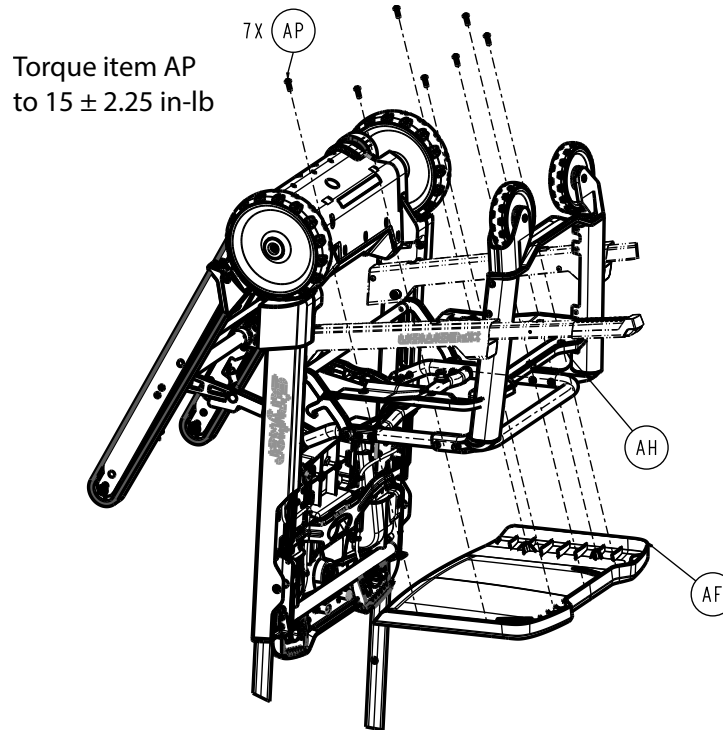

Figure 11 –
5. Using a T20 Torx driver, remove the seven pan head thread forming screws (AP) that secure the seat pan (AF) to the seat rib cover (AH) (Figure 11). Save the screws.